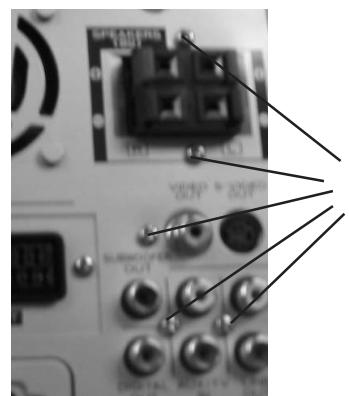

Figure 12
- 5) Loosen 5 screws " N" on the back panel as shown in Figure 12 from the back panel.